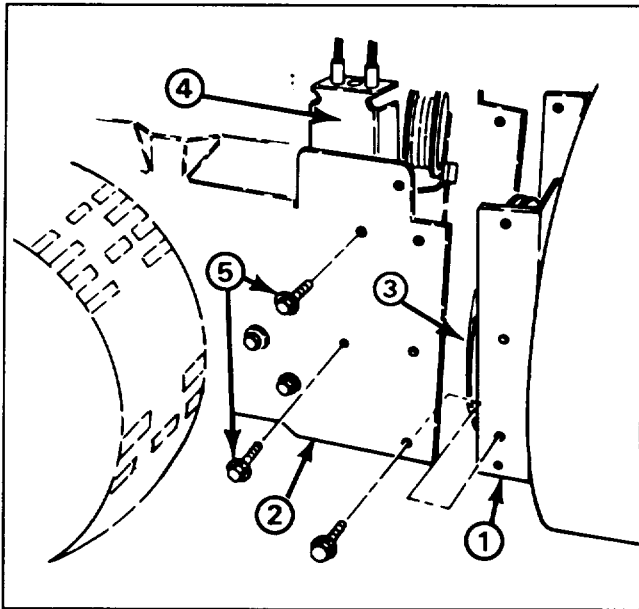

Figure 1
MOUNT AUGER HOUSING (Fig. 1–3)
1. Remove (2) flange head capscrews securing idler pulley assembly to engine frame. Remove idler pulley assembly.
- Align auger housing and engine frame mounting holes (Fig. 1).
- Secure auger housing to engine frame with (6) 5/16–18x5/8" lg. flange head capscrews.